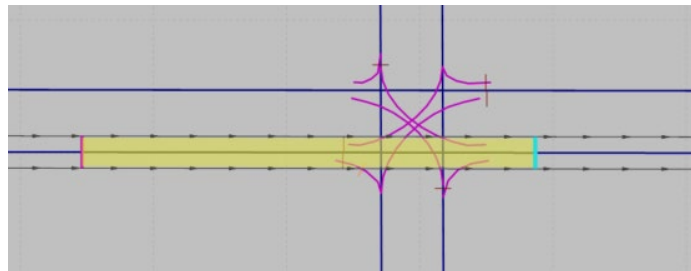

Figure 21: Through vehicle route
- Left-click at that end location. You will see the blue bar at the decision endpoint and the path will be highlighted in yellow (see Figure 21).